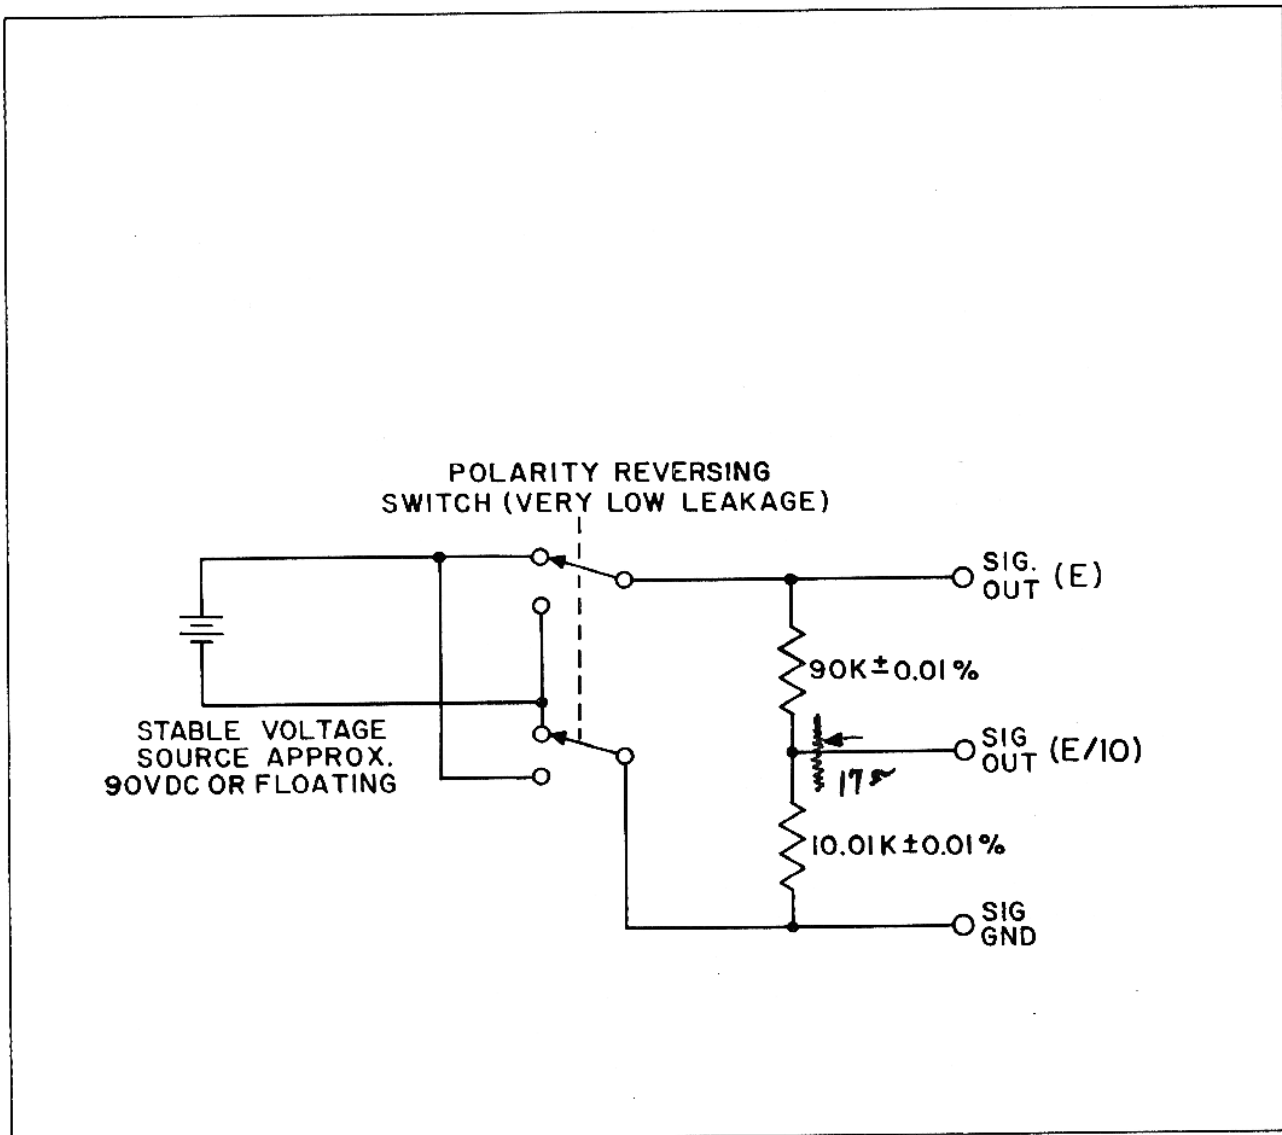

FIGURE 4-1. CALIBRATION DIVIDER
Figure 4-1 shows resistor values which can be used in the precision divider.
- Repeat Steps #4 through #7 to check all calibration. Check each voltage on both polarities by means of the reversing switch (Figure 4-1) and check the offset. The polarity offset should not be more than  $\pm 2$  digits. If the offset is excessive, check the amplifier output level (Section V and Figure 5-1).